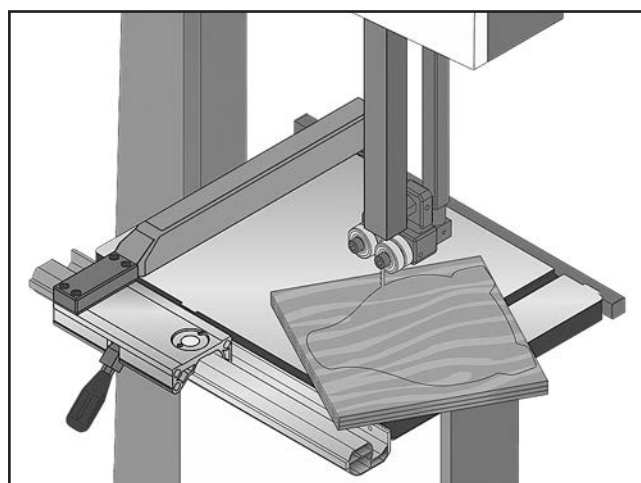

Figure 81. Example of a stacked cut setup.
5. Cut stack of pieces along your layout line as though you were cutting a single piece (see **Figure 81** for an example of a stacked cut setup).